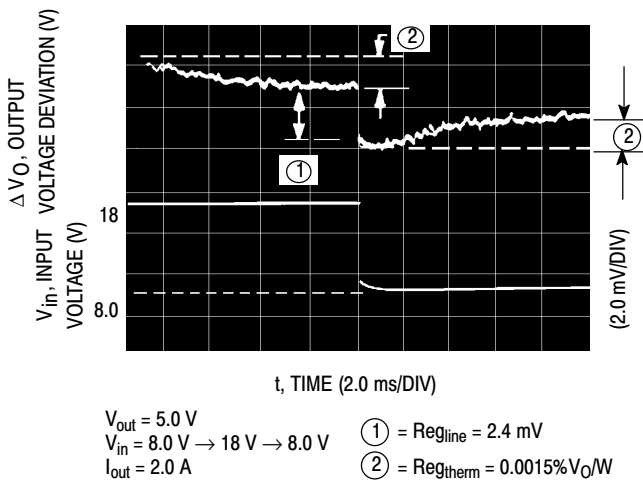
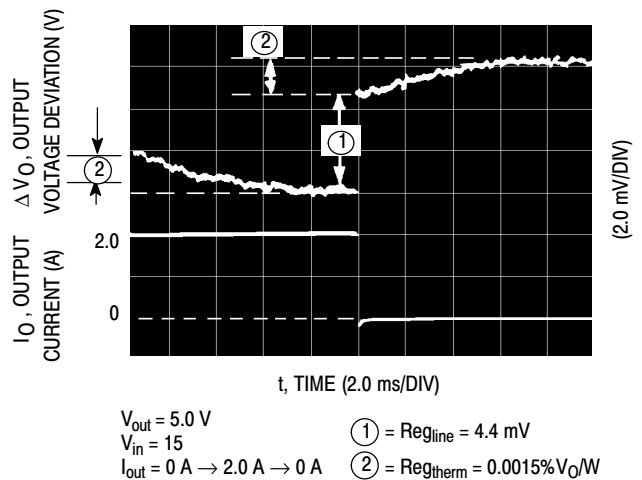

Figure 1. MC78T05AC Line and Thermal Regulation
Figure 2. MC78T05AC Load and Thermal Regulation
Figure 1 shows the line and thermal regulation response of a typical MC78T05AC to a 20 W input pulse. The variation of the output voltage due to line regulation is labeled ① and the thermal regulation component is labeled ②. Figure 2 shows the load and thermal regulation response of a typical MC78T05AC to a 20 W load pulse. The output voltage variation due to load regulation is labeled ① and the thermal regulation component is labeled ②.